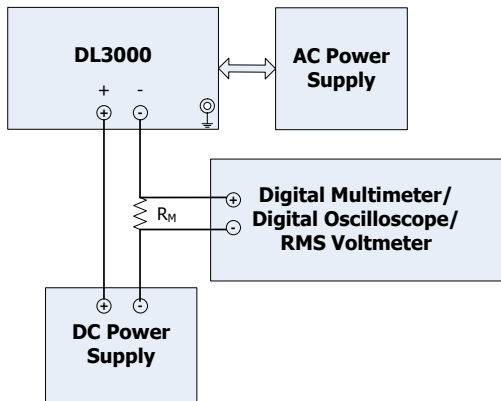

Figure 2-1 CC Test Connection
Before performing the test, select the appropriate AC voltage via the "AC Selector" on the rear panel of the electronic load according to the AC voltage standard of your country (230 Vac is taken as an example in all the tests in this manual). At room temperature (25°C), connect the recommended devices specified in "Recommended Test Devices" according to the connection method in Figure 2-1. During the test process, please set the AC voltage according to the selected voltage in "AC Selector" on the rear panel of the electronic load.
1. Power off DL3031A. Connect DL3031A, AC power supply, DC power supply, a current sampling resistor (with a resistance R_M 0.01 Ω), and a digital multimeter according to Figure 2-1 (Pay attention to the connection method for the current sampling resistor, the channel input terminals of DL3031A, and the digital multimeter). Connect the USB DEVICE interface on the rear panel of the electronic load to the PC via the USB cable.